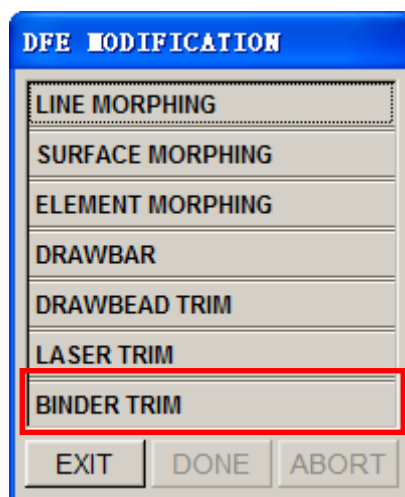

Figure 45 DFE Modification menu
2. Select **Binder Trim** function in the **DFE Modification** dialog box, as illustrated in Figure 45.